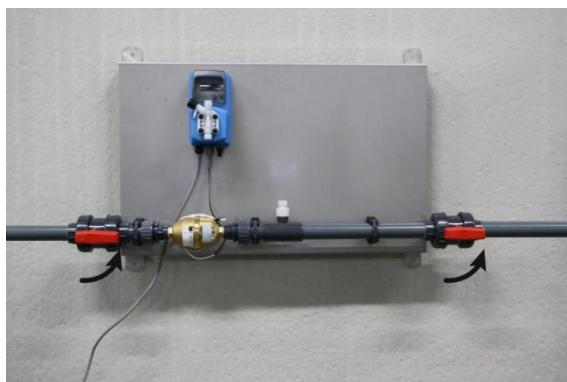

Figure 1: Open the ball valves
- Connect the water supply to the inlet and the outlet pipe (for treated water) to the outlet. Open the ball valves at the pump inlet and outlet (Figure 1).